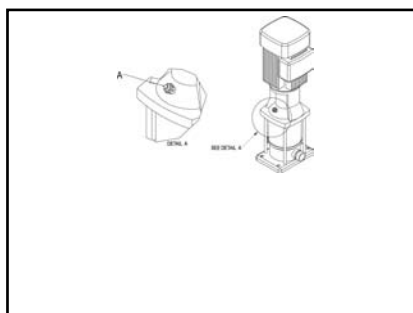

Fig. 12
3. Loosen the relief plug (A, Fig 12) 1-2 revolutions until water and air begin to flow out.